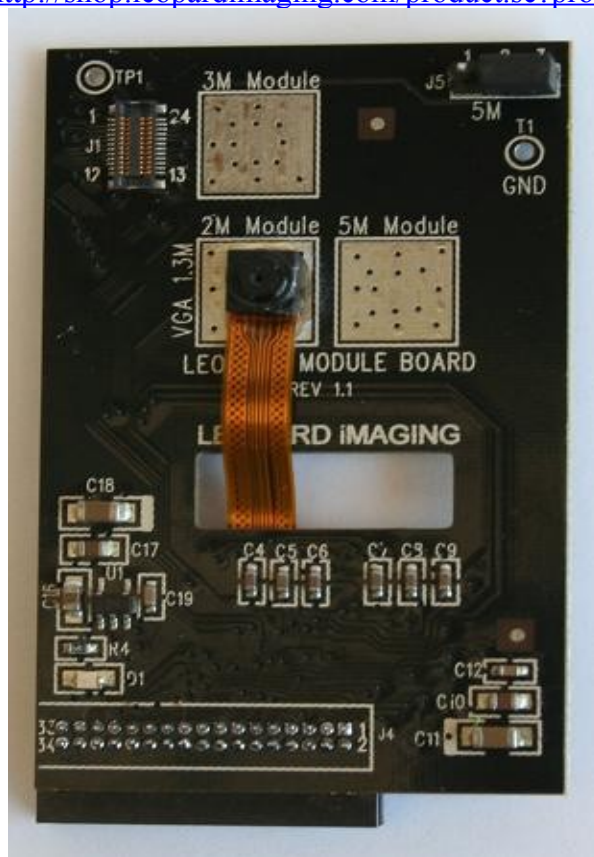

Figure 7. VGA Camera Board
1.2.5.1 VGA Camera Board, see Figure 7.